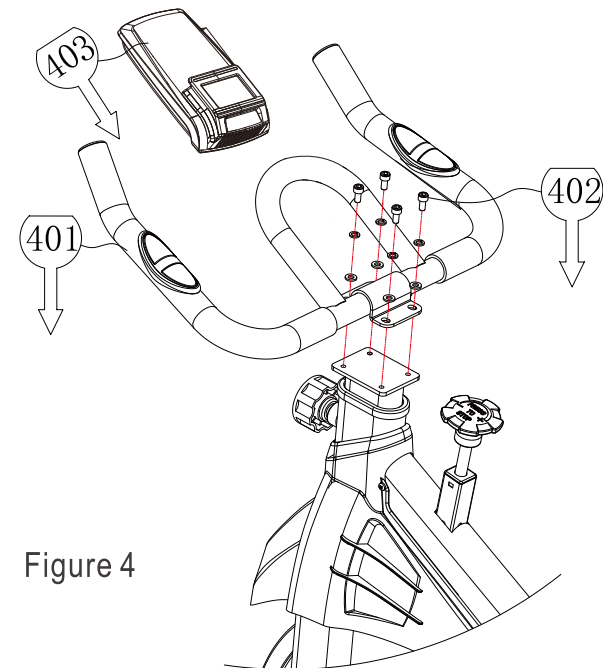

Figure 4
4. As shown in step 401 of Figure 4, align the four mounting holes in the middle of the "handlebar" with the four M6 fixing screw holes on the front end of the "main frame";
As shown in step 402 in Figure 4, four "hexagonal head cap screws M6 x 12" are sequentially inserted into the "elastic washer  $\Phi 6.7 \times 1.6$ " and "flat washer  $\Phi 6.6 \times \Phi 12 \times 1.6$ " and then passed through. Screw the "handle" mounting hole into the front fixing screw hole on the "main frame" and tighten the screw with a "5# hex wrench".
As shown in step 403 of Figure 4, the electronic computer display is inserted into the iron piece of the handrail, and the terminal connection line on the electronic watch is connected;